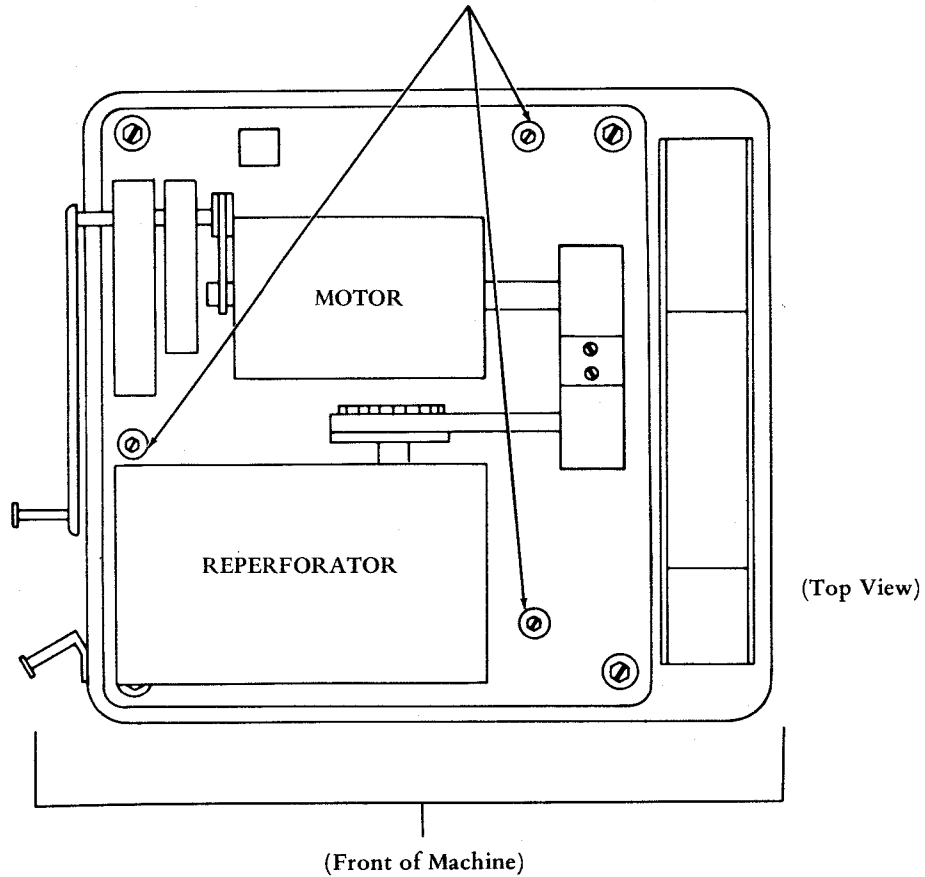

Figure 3 - Base Mounting Hardware
- (5) Open table door. Remove all packing material.
- (6) Disassemble cover lid and tape winder arm.
- (7) Remove tape from pulley housing and from chad scale (when equipped).
- (8) Remove three screws, lockwashers, and flat washers to mobilize reperforator baseplate; save mounting hardware, if intend to reship (Figure 3).
- (9) Secure cover lid to top of set.
- (10) Mount plastic tape reel.